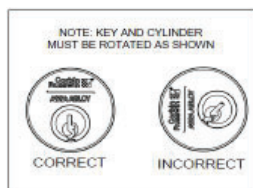

Figure 2
- Cylinder must be oriented correctly. (See Figure 2)